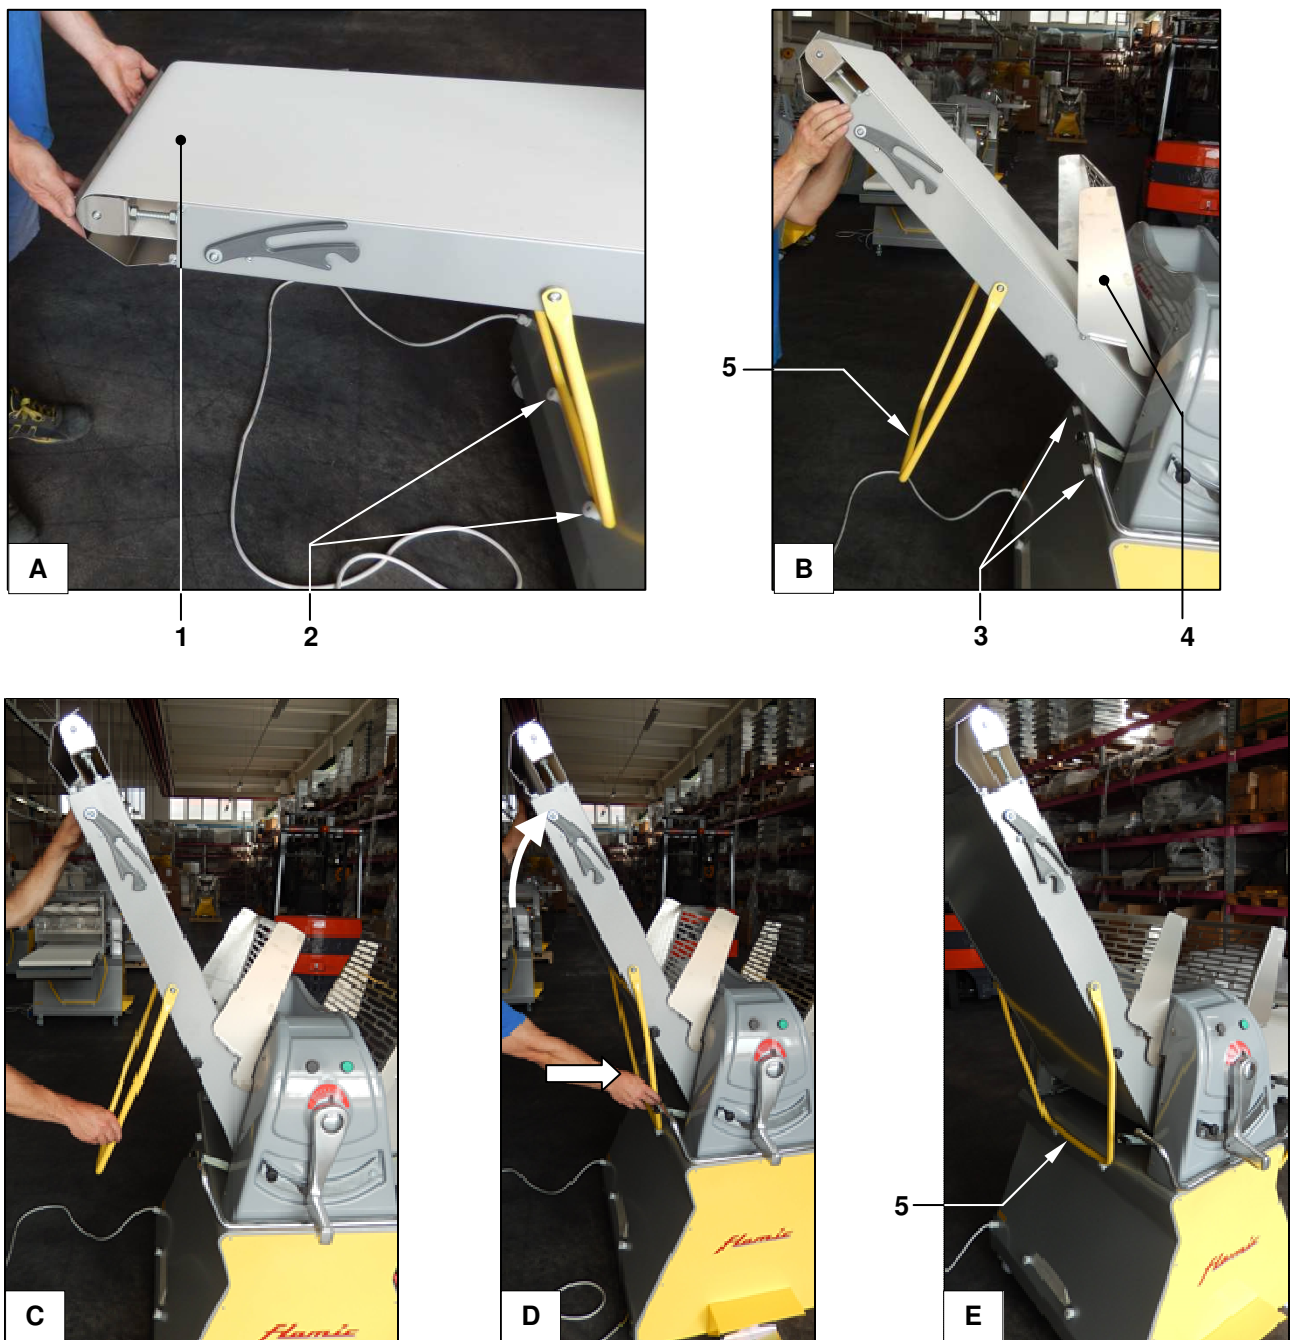

Figure 18 - Raising/lowering the benches (mod. SF600)
With reference to Figure 18, to move a bench ref. 1 from the position shown in photo A to the position shown in photo E:
- raise the guard ref. 4 completely (see section 3.5.1)
- raise the table ref. 1 (photo B)
- for table lengths of  $\leq 850$  mm: whilst keeping the table raised with one hand, with the other place the horizontal bar of the support ref. 5 onto the blocks ref. 3 (photos C - D - E)
- for table lengths of  $> 850$  mm: whilst one operator keeps the table raised with both hands, the other operator should place the horizontal bar of the support ref. 5 onto the blocks ref. 3